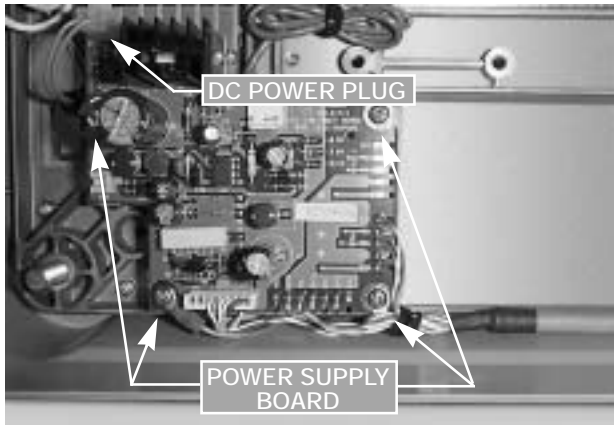

Figure 2-11. Disconnect DC Power Supply Plug and Remove the Four Power Supply Board Screws
4. Disconnect DC power supply plug from power board (Figure 2-11). Remove four machine screws securing board to chassis.
14. Install power board using the four machine screws previously removed. Route load cell cable under power board as shown in Figure 2-11. Reinstall ground terminal under one machine screw head.